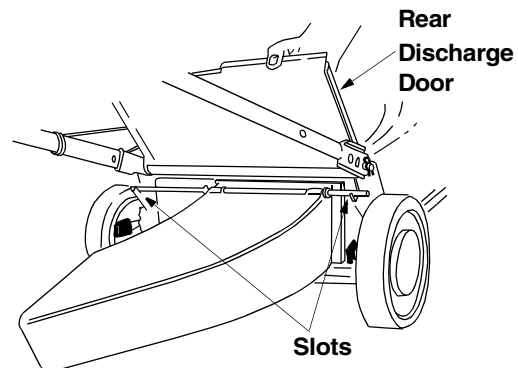

Figure 10
- **To attach chute deflector:** Lift the rear discharge door on the mower. Place the ends of the rod into the slots in the handle bracket assemblies. See Figure 10. Release the rear discharge door.
- **To remove chute deflector:** Lift the rear discharge door on the mower. Lift the chute deflector up and out of the slots in the handle bracket assemblies. Release the rear discharge door. See Figure 10.